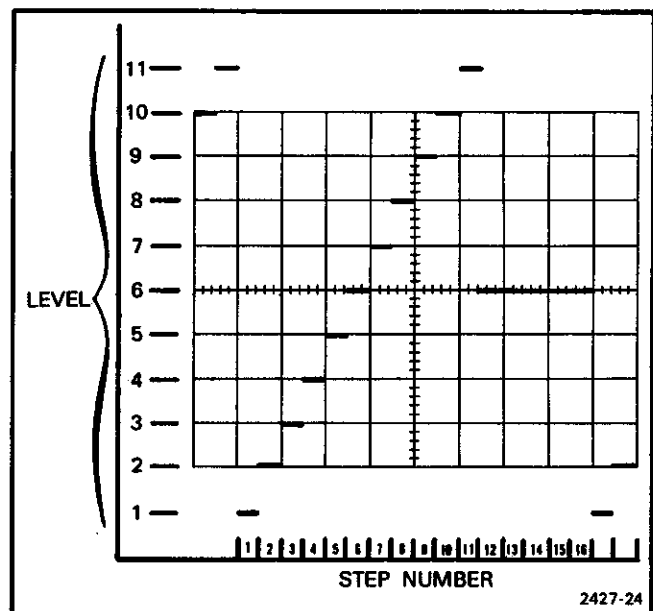

Figure 5-4. Staircase waveform.
3. Attach test clip (item 17) to U121.
- a. Actuate the switch repeatedly until the output reaches level six. (This advances the staircase generator through the staircase waveform.) With the Signal Standardizer's POSITION control centered, the level six voltage is close to zero volts. It will remain at level six during steps (switch closures) 12 through 16. See Figure 5-4.